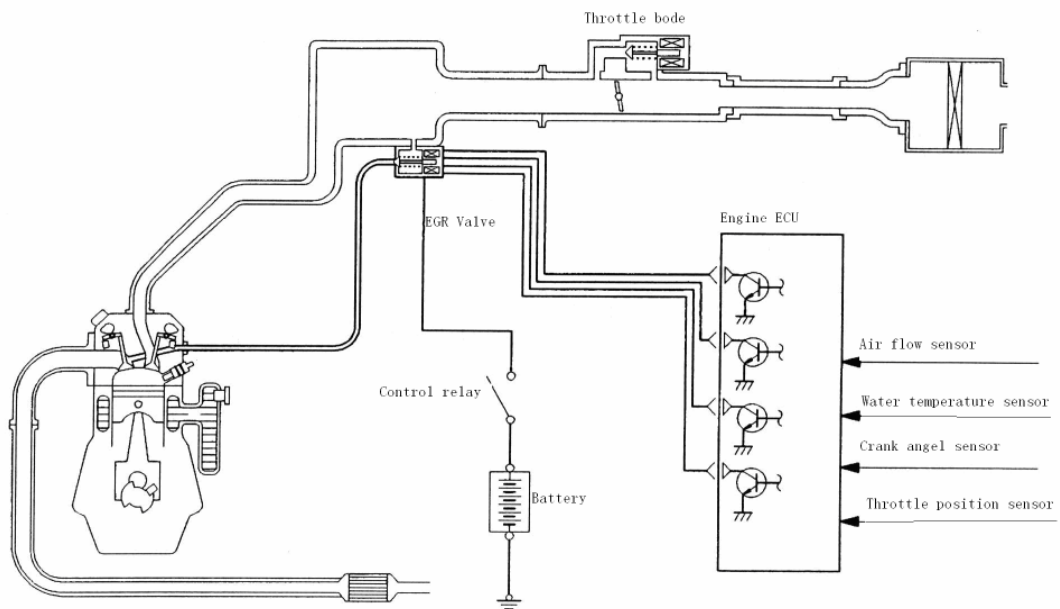

Fig. 10-14
4) EXHAUST GAS RCIRCULATION (EGR) SYSTEM(see Fig.10-14)